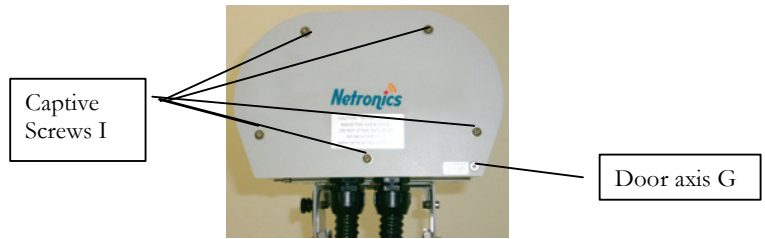

Fig. 6.13: Screws I and door axis
Rotate the Rear Door around the axis (G) and push it. Close the five screws (I) -- see Figure 6.13